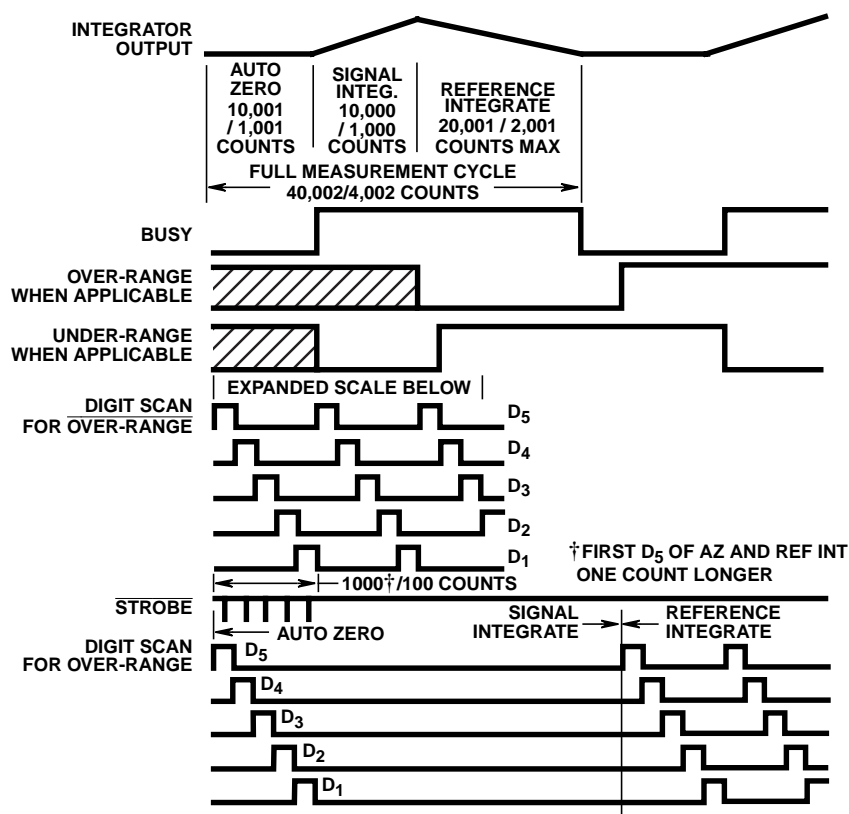

FIGURE 5. TIMING DIAGRAM FOR OUTPUTS
- Tested in 3¹/₂ digit (2,000 count) circuit shown in Figure 5, clock frequency 12kHz. Pin 2 71C03 connected to GND.
- Tested in 4¹/₂ digit (20,000 count) circuit shown in Figure 5, clock frequency 120kHz. Pin 2 71C03A open.